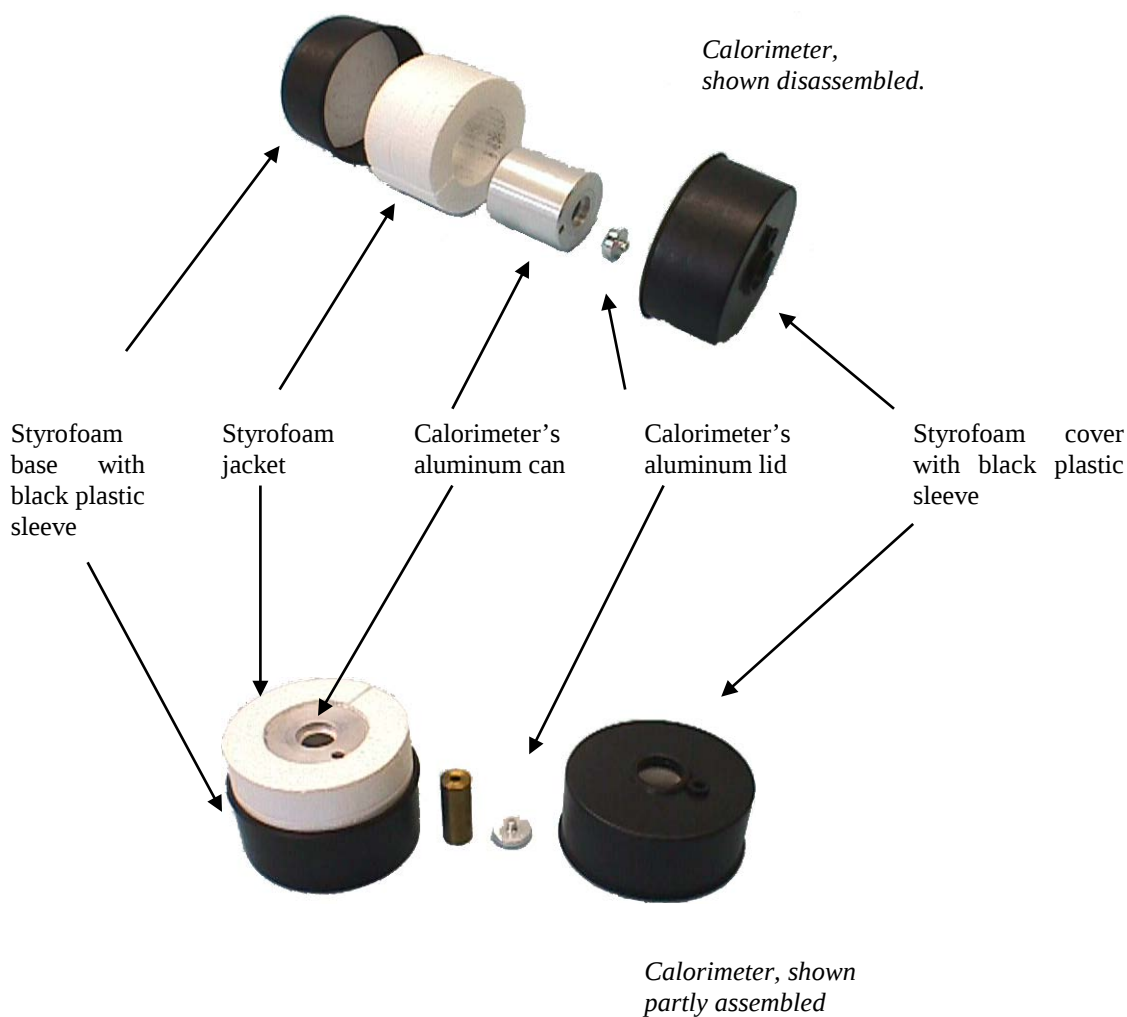

Figure 8.2
10. Once you have **completely dried** the calorimeter (inside and out), reassemble it into the styrofoam jacket as in Figure 8.2. After installing the cover, insert temperature probe #1 into the calorimeter, and click the  Collect button on logger pro.